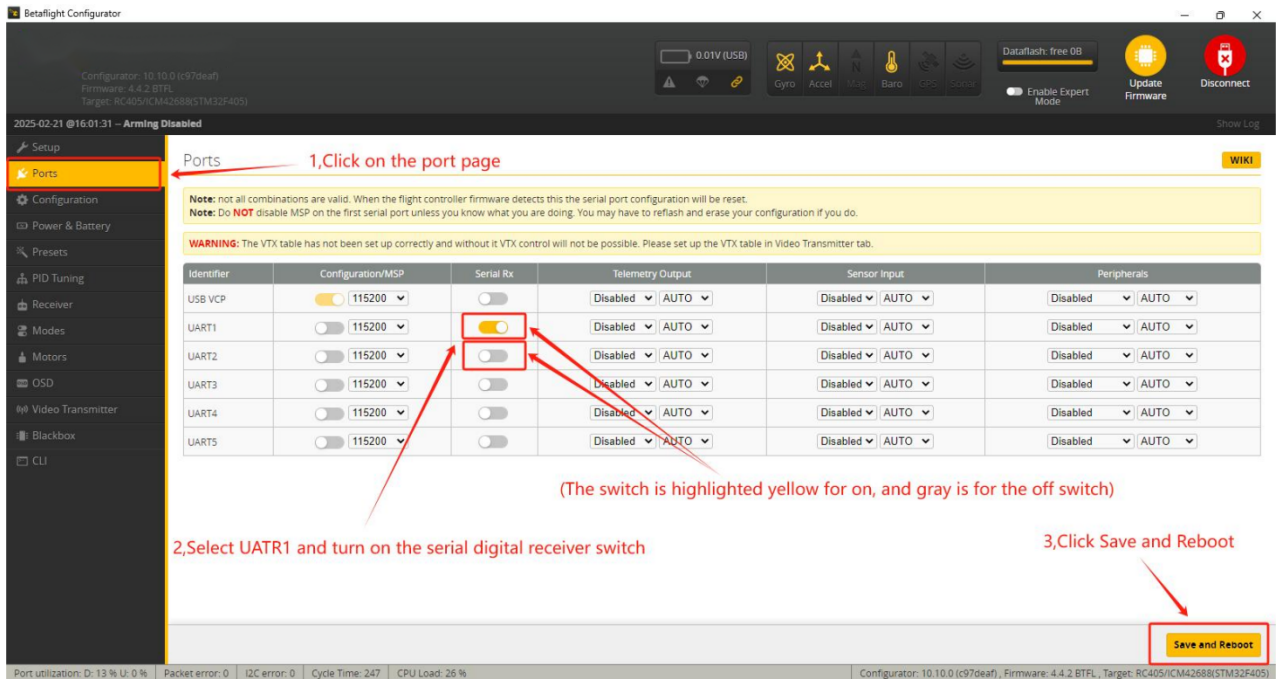

Fig 7.1.2 Flight Control Port Settings Serial Port
Step 2: Click the **Ports** on the left side of the ground station software. For example, if the flight controller's UART1 is connected to the AI module, enable the corresponding Serial Digital Receiver switch for UART1 in the software. After configuration, click "Save" or "Save and Reboot" (the switch will appear yellow when enabled and gray when disabled). Refer to Figure 7.1.2 for visualization.